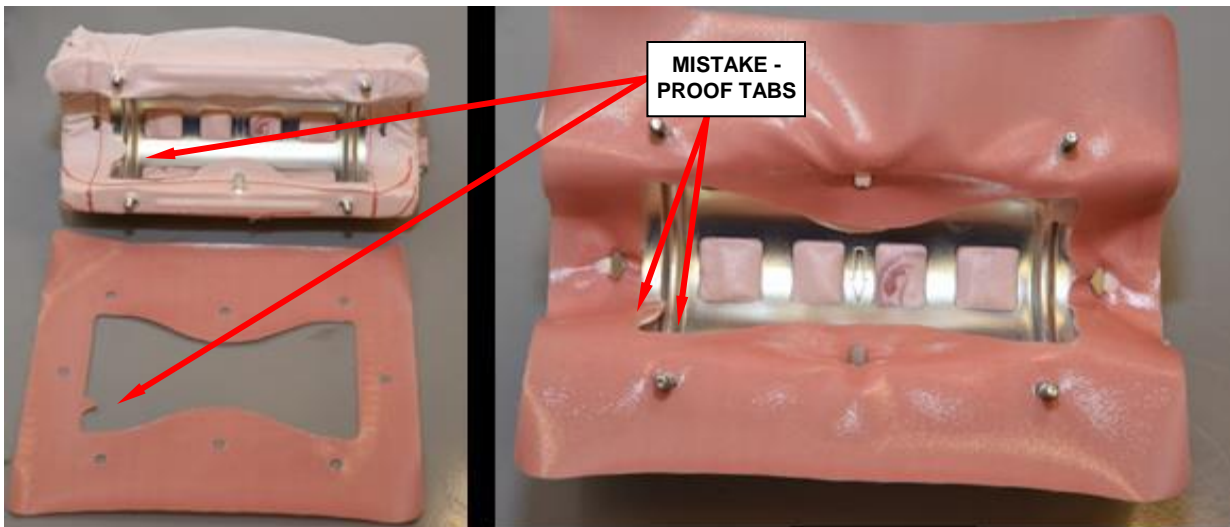

Figure 39 – Fabric Gasket to Cushion
- h. Place the fabric gasket, glossy side up, onto cushion. Mistake-proof tab should be aligned to the tab on the cushion (Figure 39).